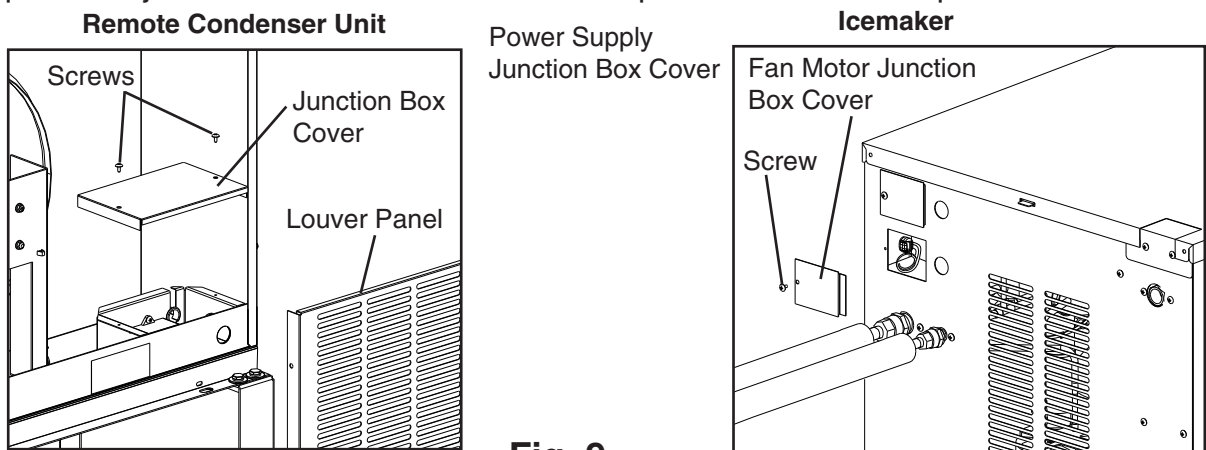

Fig. 9
- 1) Remove the louver panel. See Fig. 9.